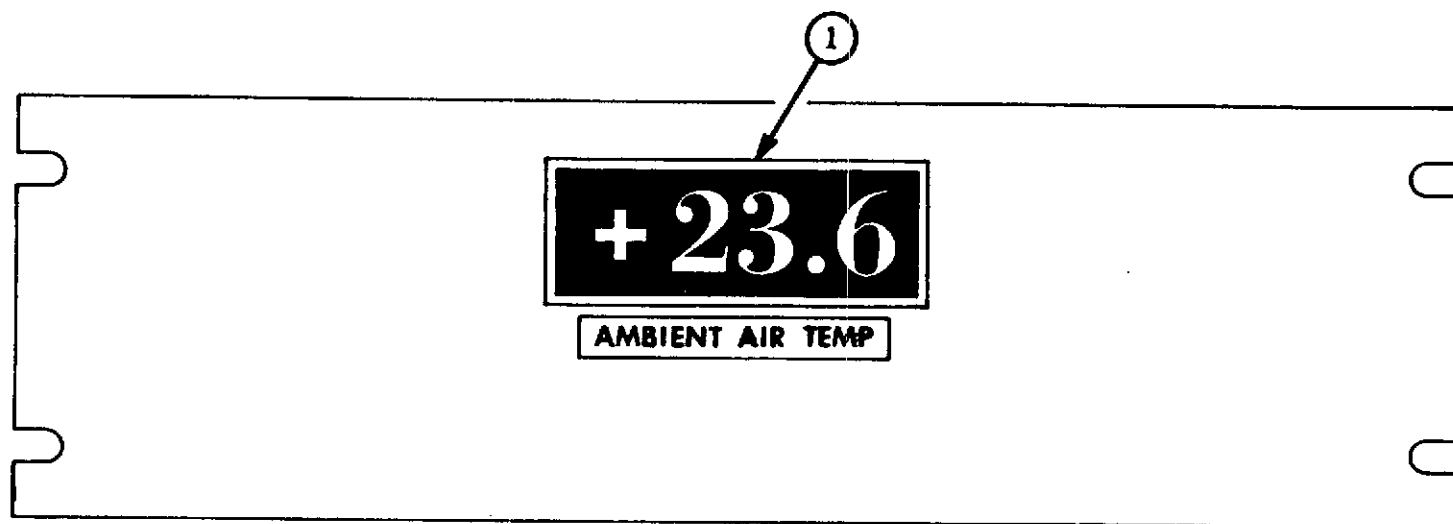

Figure 2-5. Ambient Air Temperature Panel
2.6 AMBIENT AIR TEMPERATURE PANEL (FIGURE 2-5)